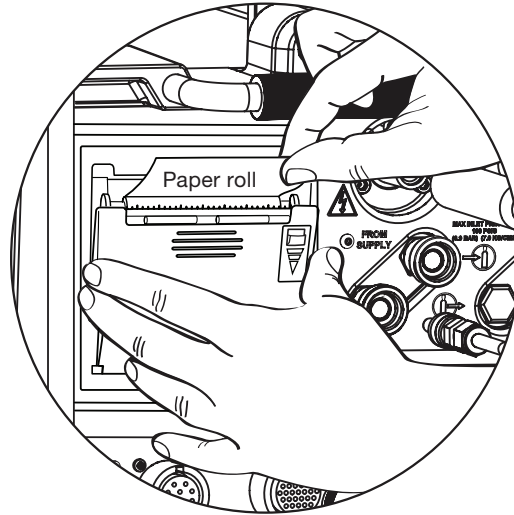

Fig. 53—Aligning the paper in the center
4. Hold the end of the paper and close the printer cover. The paper needs to be aligned in the center (Fig. 53).